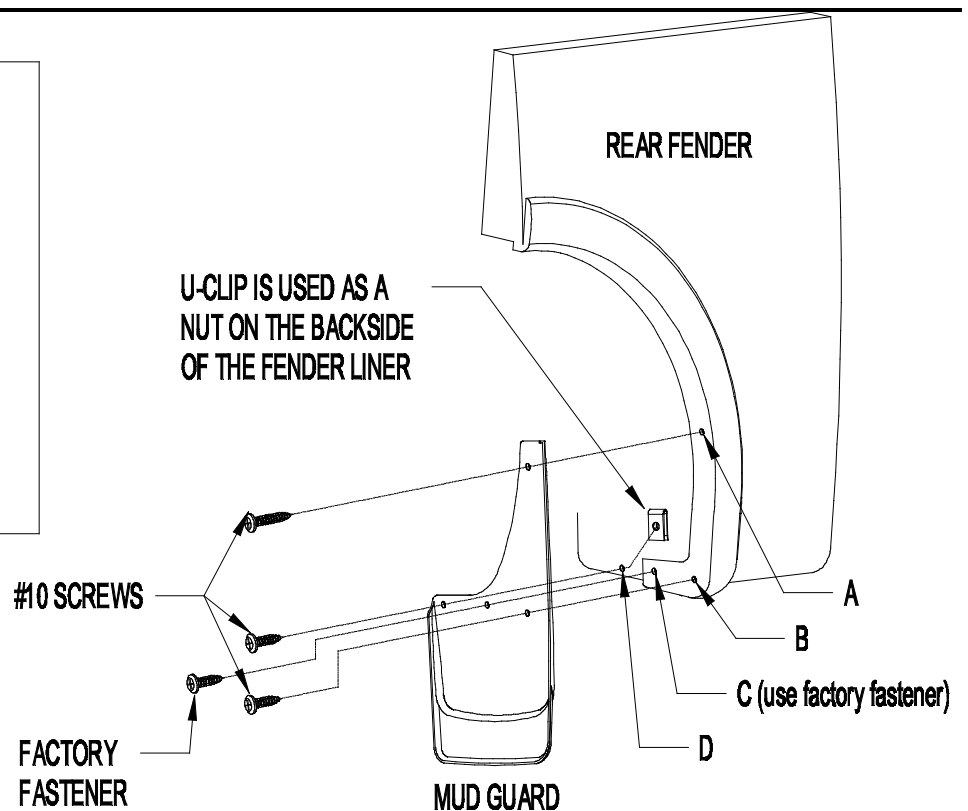

Figure 1
2. Remove factory fastener from location C (Figure 1).
4. Using the mud guard as a template, mark and drill an 1/8" hole at location A, B and D (Figure 1).